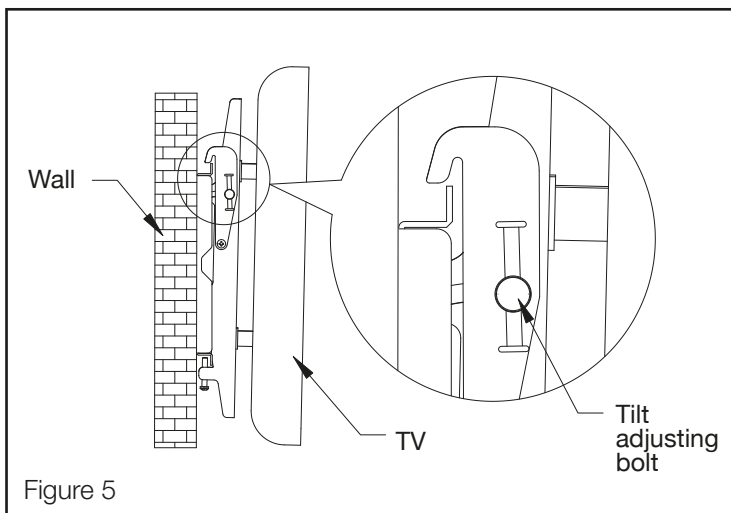

Figure 5
1. Using a second person for assistance, carefully lift the TV and hook arms over the wall plate (see Figure 5).
3. You may now adjust the angle of your TV for the best viewing angle. Use the Tilt adjusting bolt to adjust your TV to the desired angle between -10° and 0° (see Figure 5).